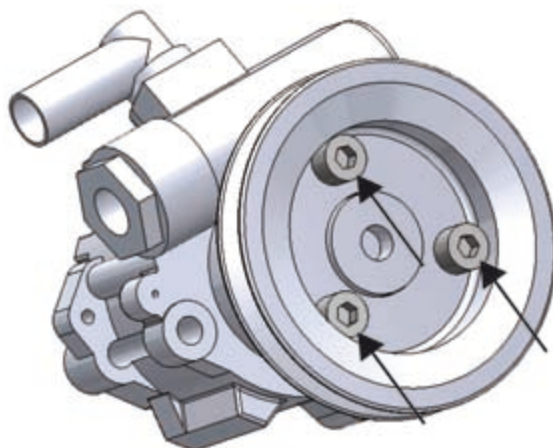

Figure 78. Belt pulley fastening screws
2. Open the three screws that attach the belt pulley to the rack (3 pcs, figure 78).